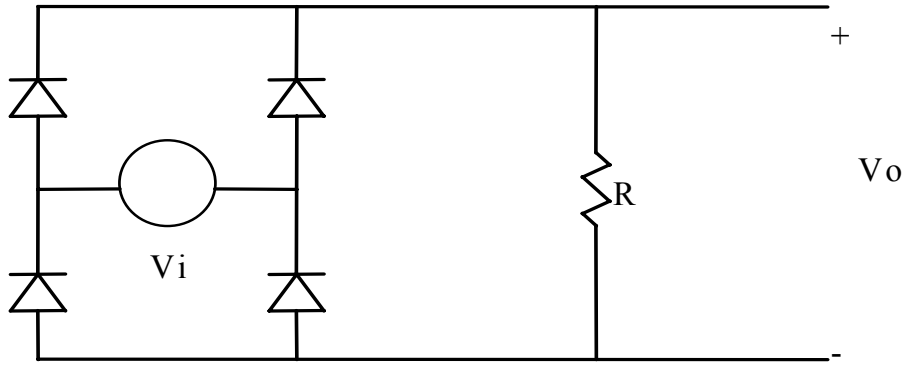

Figure 2-3: Full wave rectification.
- a) Build the circuit in Figure 2-3. Use 1N4004 diodes. Use a 1kohm resistor to limit the current. Capture the I/O waveforms.